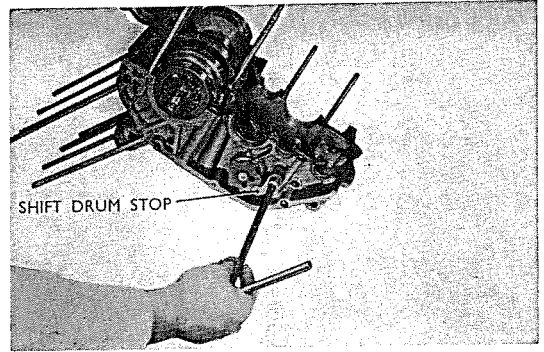

Fig. 3.125 Removing shift drum limit
5. Remove the 6×18 bolt of the shift drum limit pressing the shift drum limit stop plate and remove the limit. (Refer to Fig. 3.125)